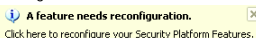

Figure 1
2. The Ultra TPM utility appears in the system tray after it is installed. To create a TPM key and save it to USB flash drive(s), right-click on the Ultra TPM icon and select **Initialize**. A screen in Figure 1 will appear. Select a USB flash drive and click the **Enable Backup to BIOS**(Note 2) check box, or select at least two USB flash drives. Click **OK** and then enter the user password(Note 3) created with Infineon Security Platform Settings Tool. Click **OK** to store the key on your USB flash drive or in the BIOS.